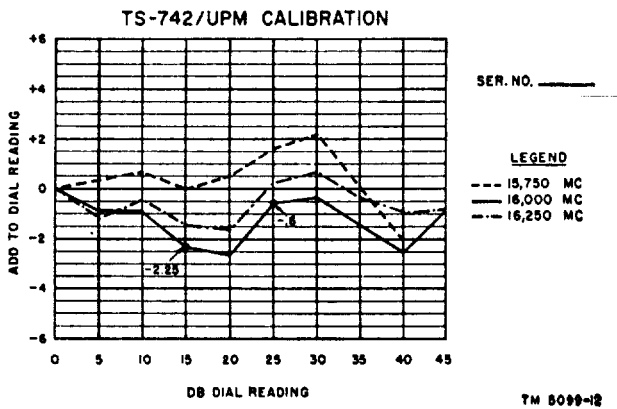

Figure 10. Typical db correction curve.
c. *Correction Factor.* The readings obtained from the db dial are approximate since they do not take into account the frequency sensitivity of the attenuator. Figure 10 shows a typical db correction curve in which attenuation is given as a function of frequency. The calibration curve provided with the unit should be used for actual db correction. For purposes of illustration, reference is made to a typical db correction chart fig. 10). Make the db correction as follows:
- (1) Assume that the FREQUENCY MC dial is at 16,000 mc.
- (2) Enter the chart at 15 db (the first db dial setting) along the horizontal axis. Read the correction for the 16,000-mc curve on the vertical scale; it is -2.25 db. Add this reading algebraically to the original reading.
- (3) Enter the chart at 25 db (the second db dial setting) and read the correction for the 16,000-mc curve on the vertical scale; it is -.6 db. Add this reading algebraically to the original reading.